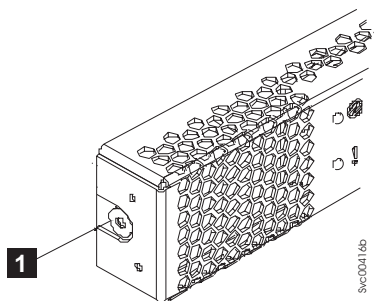

Figure 76. Left release button of a SAN Volume Controller 2145-CF8 service controller
6. Locate the recessed, blue service-controller release buttons on each side of the controller. See Figure 76.